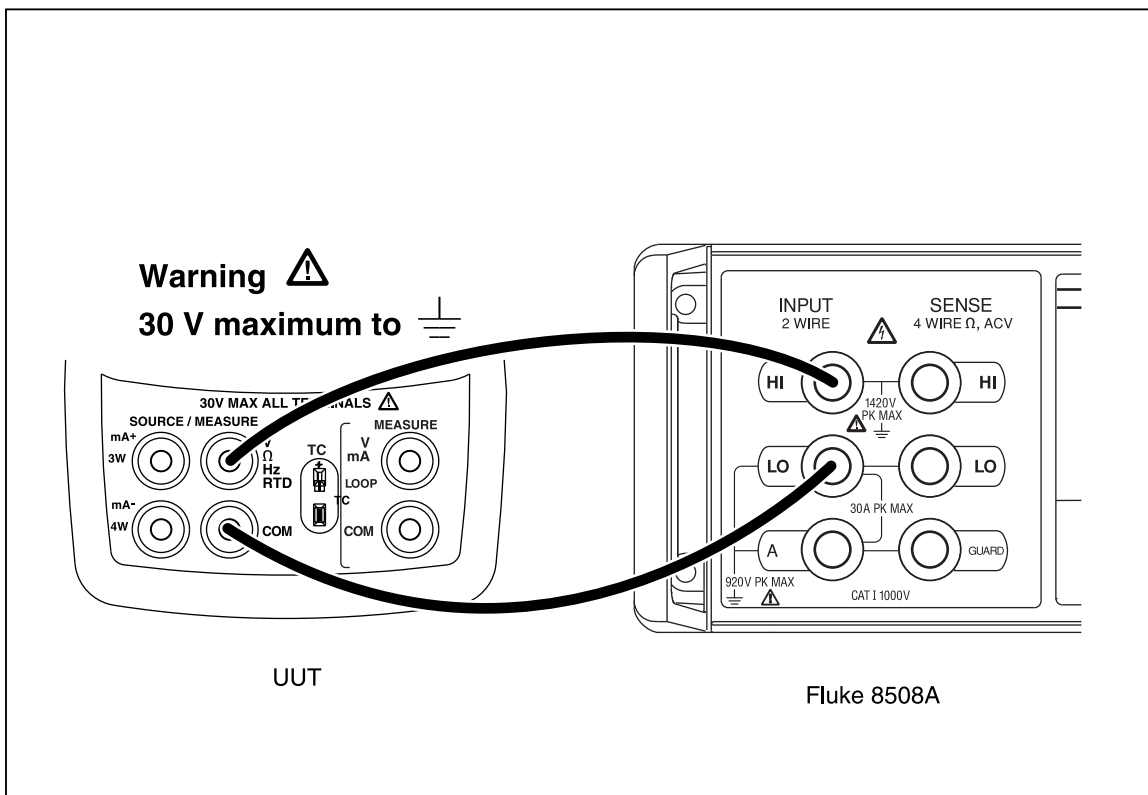

Figure 7. Lower Display Frequency Source Test Connections
3. Configure the Fluke 8508A to measure frequency; then make the connections shown in Figure 7.
3. Connect the UUT to the Fluke 8508A as shown in Figure 7.